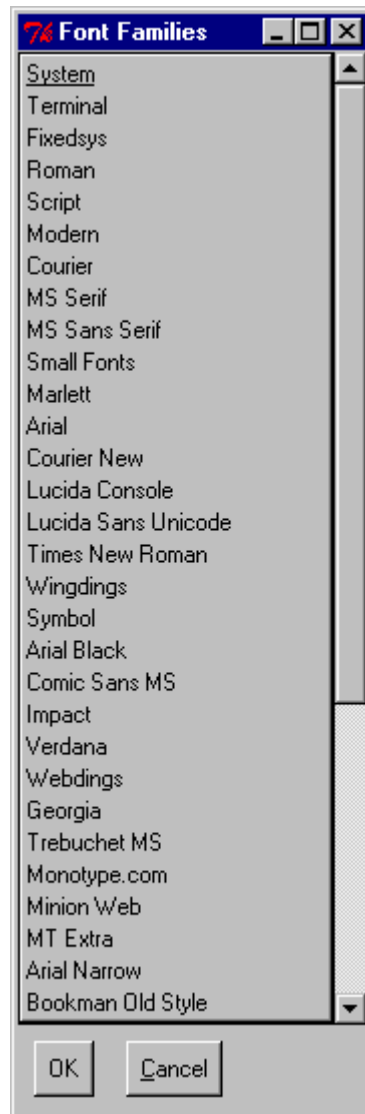

Figure 4-7. Font Family Selection Dialog Box
3. *Click Family...* The Font Families selection dialog box appears. Figure 4-7 shows the Font Families selection dialog box.